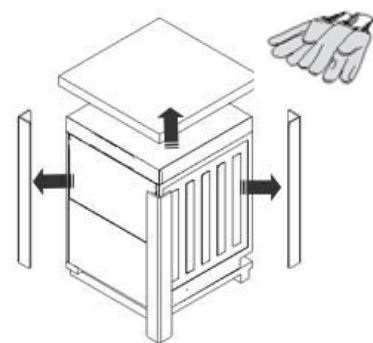

Figure 5 Unpacking
- Unpack the machine using protective gloves (Figure 5).
- Use a forklift to lift the equipment. Remove the mounting plate, and position the equipment in place (Figure 5).